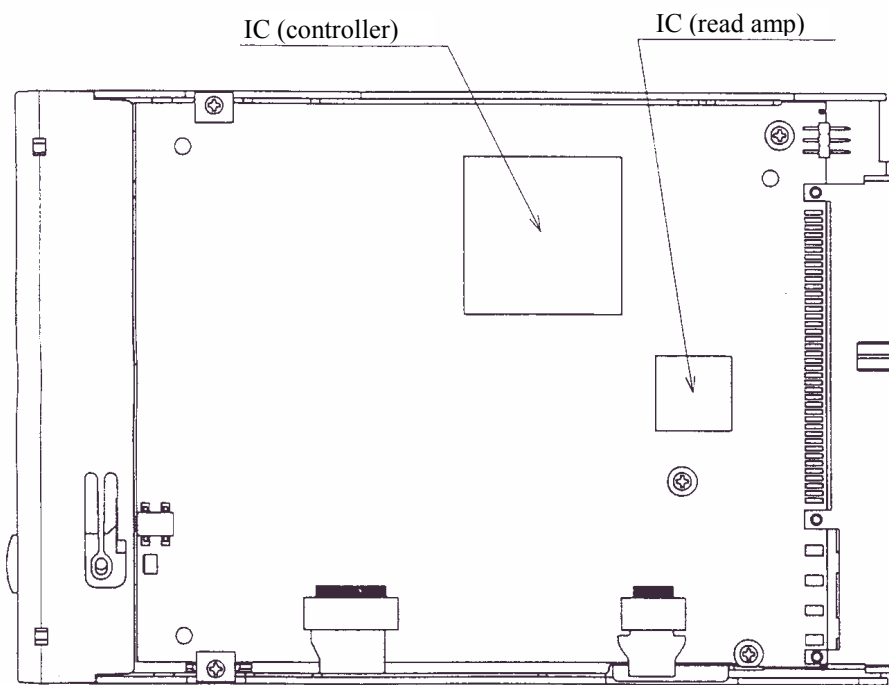

Figure 3.1 Surface temperature measurement points
When a drive is operating, the ambient temperature measured 3 cm from the base surface of the optical disk drive and the PCA unit surface must satisfy the environmental requirements specified in Subsection 2.1.3. For the temperature of each surface during operation, the contact temperature at each measurement point shown in Figure 3.1 must satisfy the requirements specified in Subsection 3.1.2.
Table 3.1 shows the temperature requirement at each measurement point shown in Figure 3.1.
- 1) Make a hole for the thermocouple as shown in Figure 3.1.
- 3) Cut off a part of the partition wall for the optical media as shown in Figure 3.1. (Cut off width: 5 to 10 mm)
The surface of the cartridge shown in Figure 3.1 has been cut away to make the elements inside the case clearly visible. In reality the surface is not cut away.